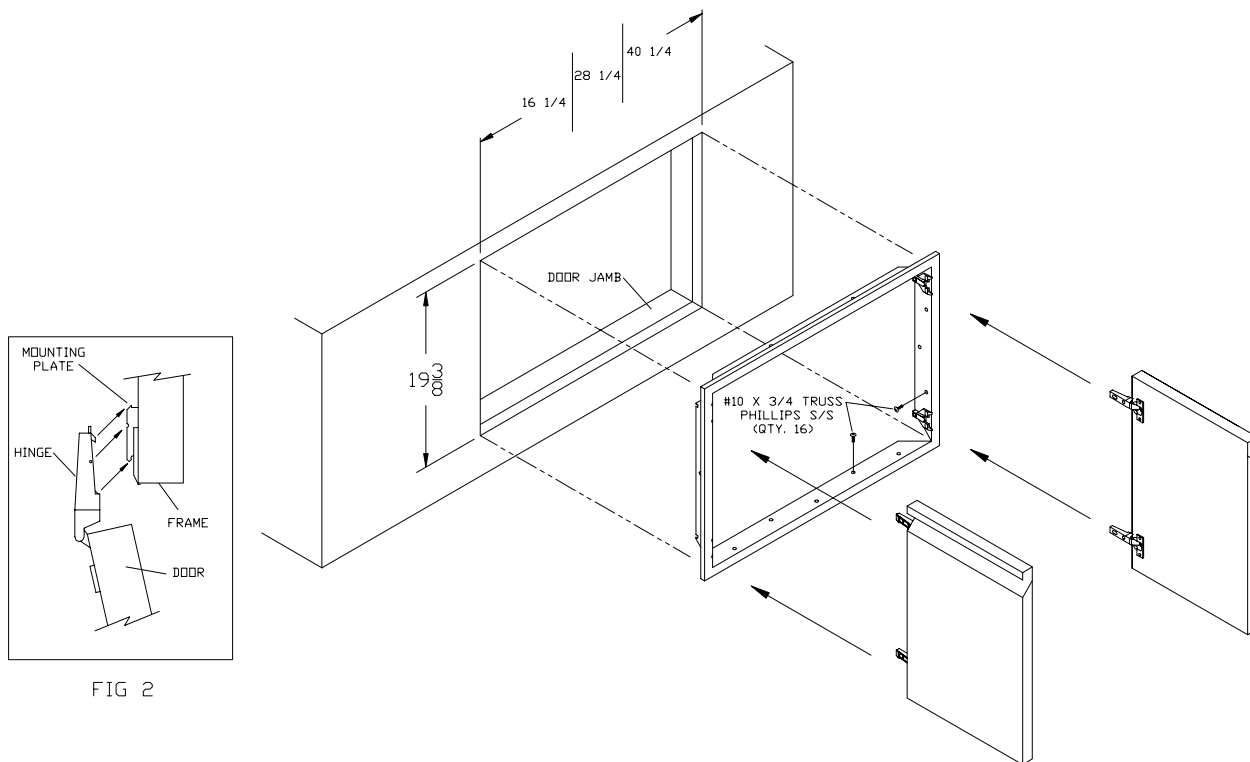

FIG 2
4. Attach doors to frame. (See figure 2)